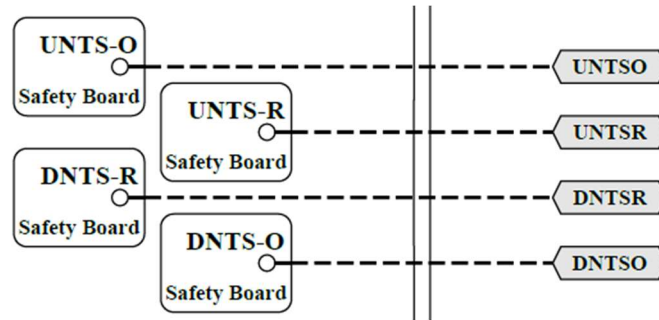

Figure 3: Traveler wire from CT terminal block to MR Safety Board
- 5) Wire up the traveler for UNTS-O, UNTS-R, DNTS-O, and DNTS-R from CT terminal block to the MR Safety board per Figure 3. If there are existing wires on UNTS-O, UNTS-R, DNTS-O, and DNTS-R on the safety board, those can be removed.